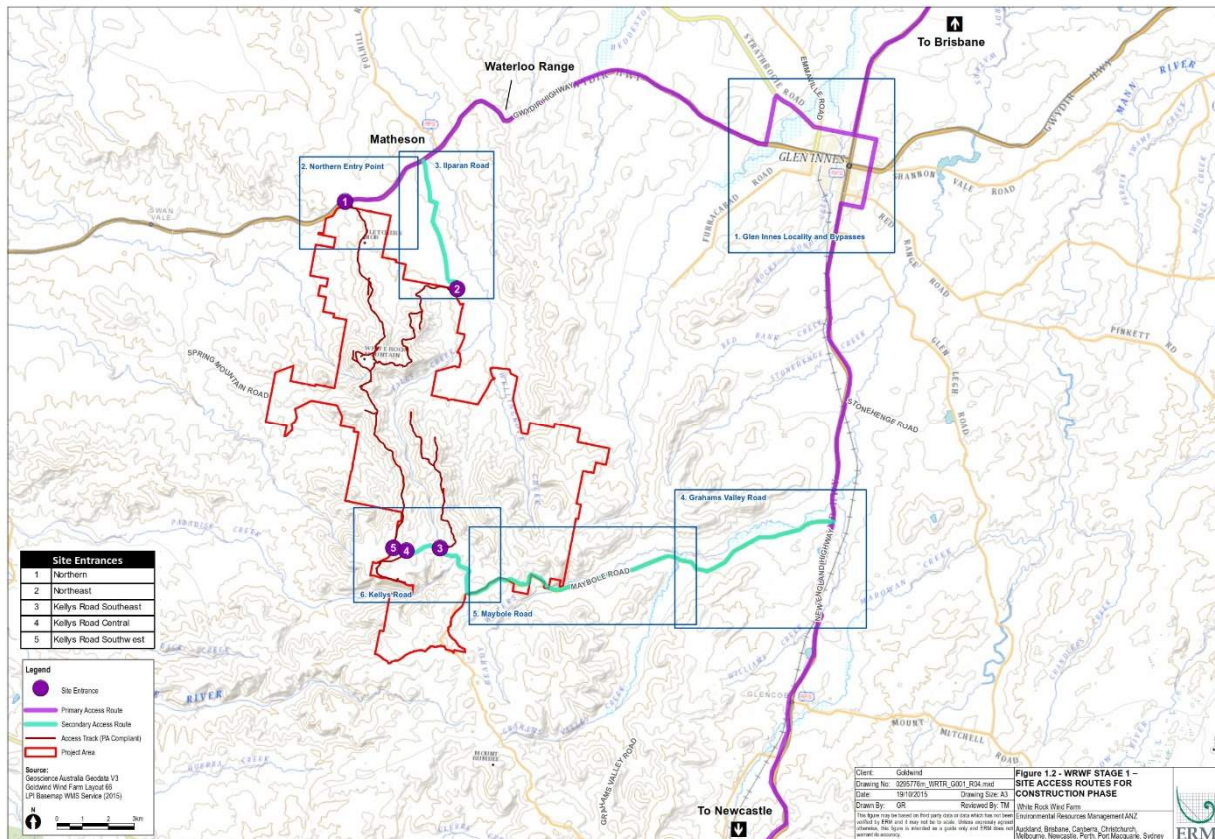

Figure 1
- It is currently intended for traffic access to and from lay down areas and construction areas shall be via Gwydir Highway as shown on Figure 1 and as detailed on Traffic Control Plans;